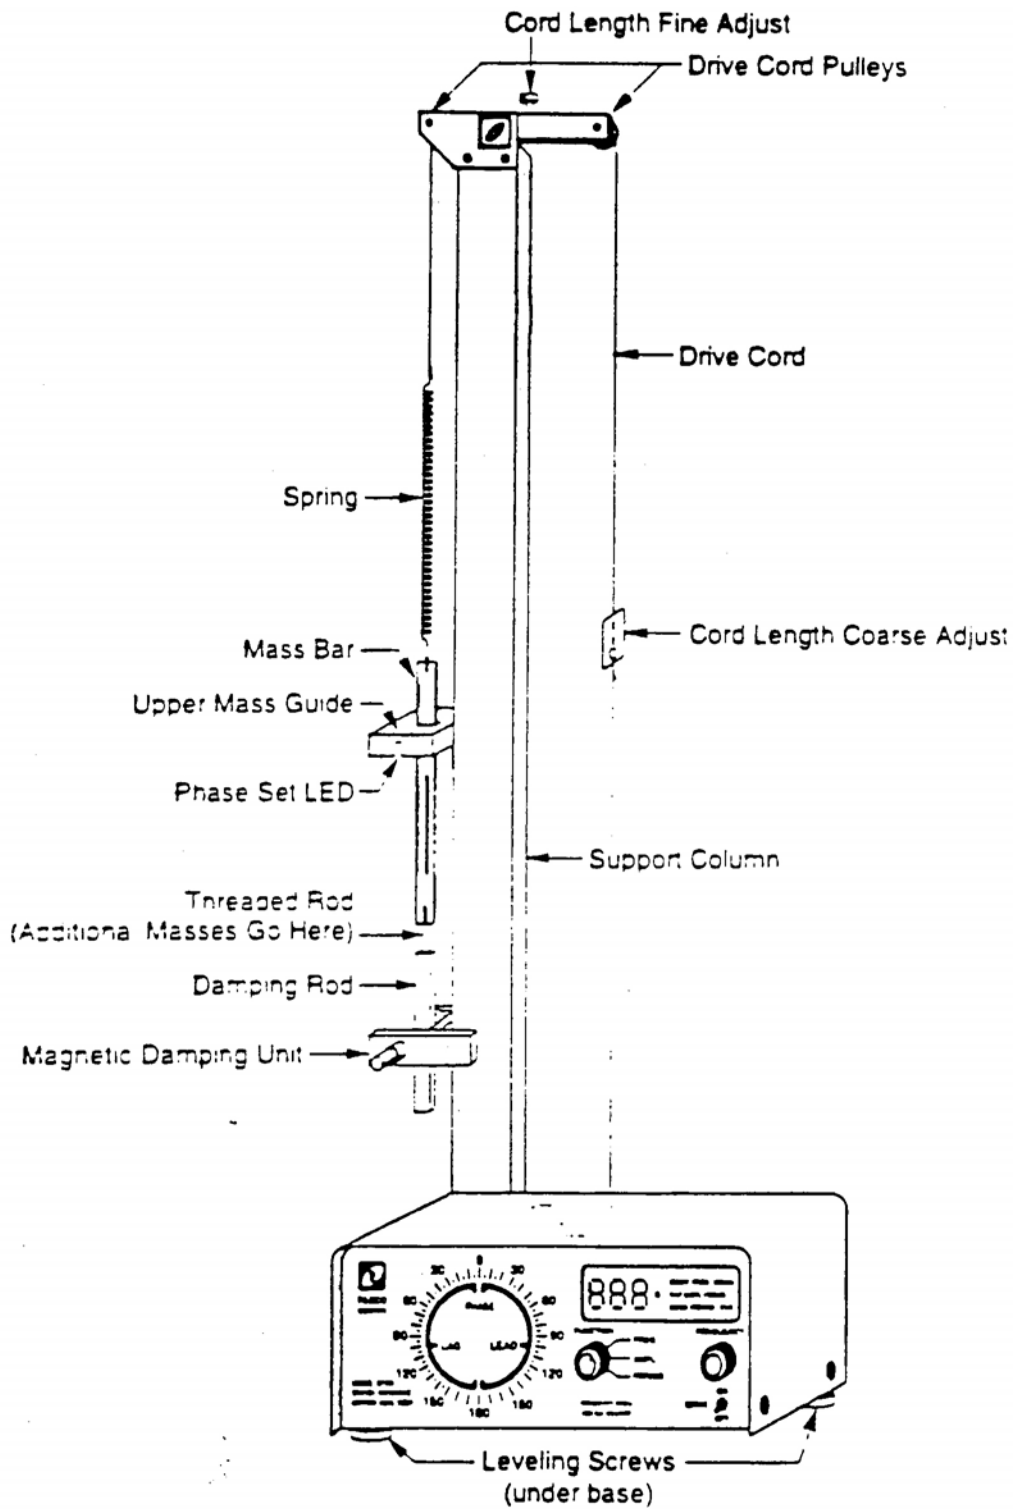

Figure III.3 - The Driven Harmonic Motion Analyzer
5. Adjust the "Cord Length Fine Adjust" until a phase angle near zero is obtained. This is your final alignment of the apparatus and is justified by your answer to Pre-Lab question 4. (See Fig. III.3 in the Appendix to this experiment).
When the unit is properly aligned, the Mass Bar will hang squarely in the center of the hole in the Upper Mass Guide, and will not touch any side (see Fig. III.4a). Improper alignment is shown in Fig. III.4b) and Fig. III.4c). To correct the misalignment shown in Fig. III.4b, adjust the leveling screws at the bottom of the unit (see Fig. III.3). To adjust the misalignment shown in Fig. III.4c turn the spade lug at the top of Mass Bar.
3. Now adjust the length of the Drive Cord using the plastic friction clip (labeled Cord Length Coarse Adjust in Fig. III.3). Adjust the cord length until small oscillations of the Mass Bar about its equilibrium position cause the Phase Set LED to turn on and off. At the top of the Support Column is a fine adjustment screw for cord length (see Fig. III.3). Adjust this screw until the amplitude of oscillations needed to make the Phase Set LED turn on and off are as small as possible.